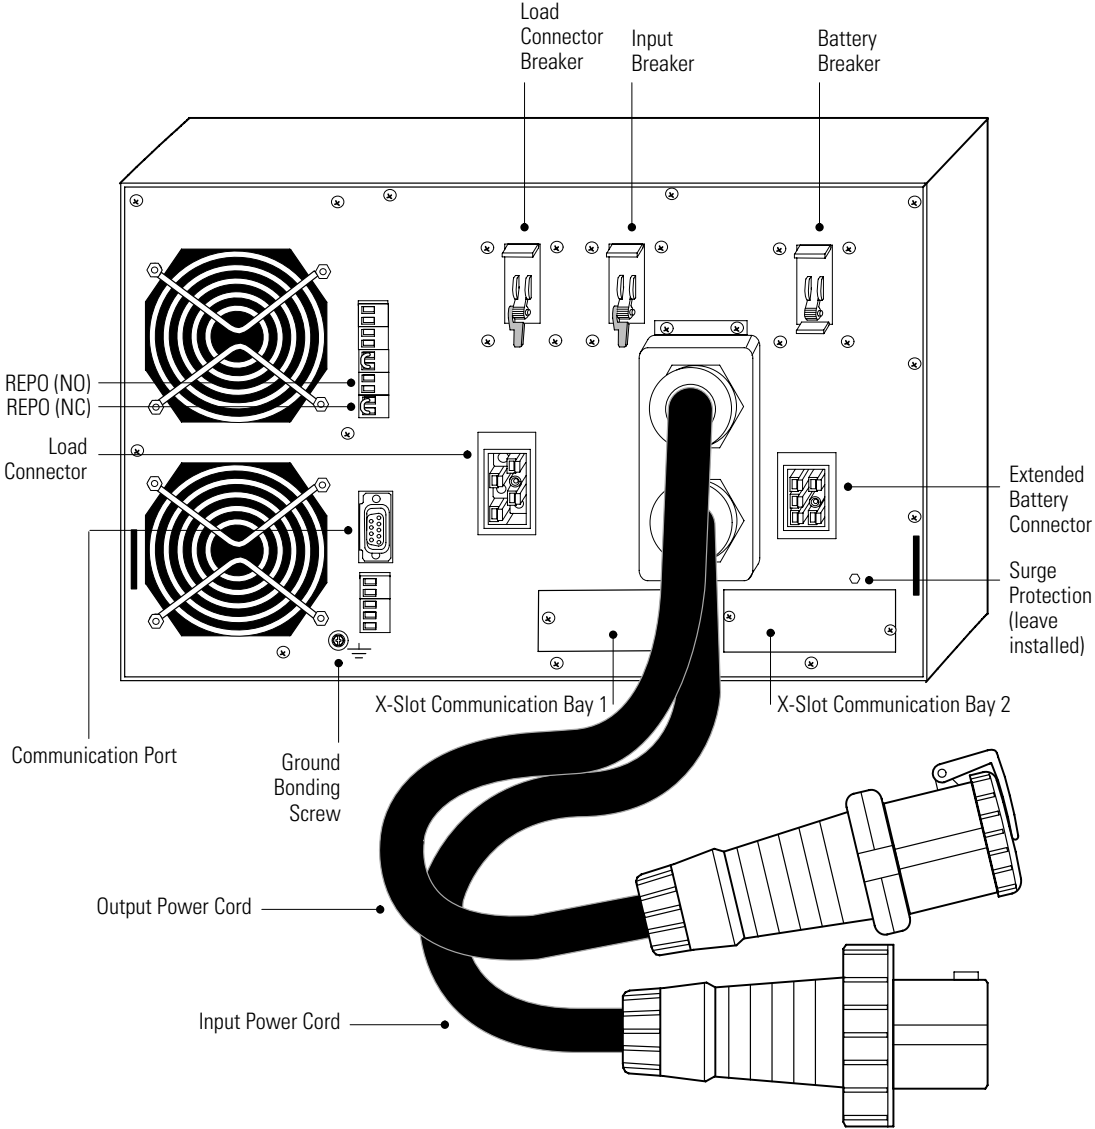

Figure 32. BladeUPS Rear Panel (Standalone UPS Shown with IEC 309-60A Output Power Cord)
1. Verify that the circuit breakers on the UPS rear panel are in the OFF (O) position (see Figure 32 on page 49).
4. If your rack has conductors for grounding or bonding of ungrounded metal parts, connect the ground cable (not included) to the ground bonding screw. See Figure 32 for the location of the ground bonding screw.
NOTE It is recommended to install the Powerware Hot Sync CAN Bridge Card in X-Slot Communication Bay 2 (see Figure 32 on page 49), leaving the X-Slot Communication Bay 1 available for other types of X-Slot cards.
16. If your rack has conductors for grounding or bonding of ungrounded metal parts, connect the ground cable (not included) to the ground bonding screw. See Figure 32 on page 49 for the location of the ground bonding screw.
- 12.** If your rack has conductors for grounding or bonding of ungrounded metal parts, connect the ground cable (not included) to the ground bonding screw. See Figure 32 on page 49 for the location of the ground bonding screw.